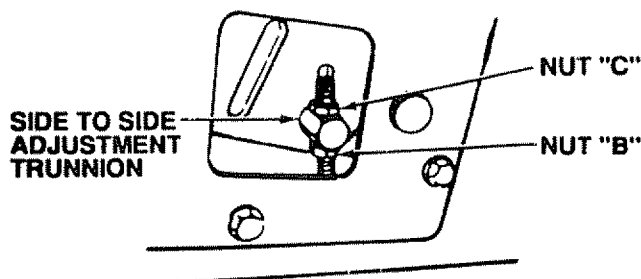

FIGURE 35
- If distance "A" needs to be changed, snap out access hole cover on L.H. side above footrest. Use 11/16" wrench on nuts "B" and "C" at side-to-side adjustment trunnion (Fig. 35).